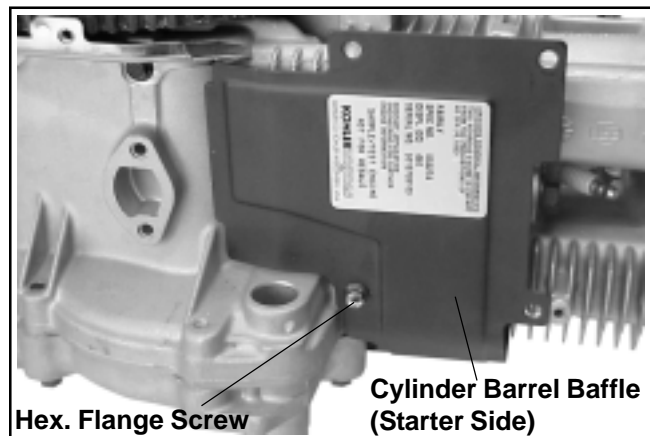

Figure 11-50. Installing Starter Side Cylinder Baffle (not on all models).
2. Install the starter side cylinder barrel baffle and one hex. flange screw. See Figure 11-50.